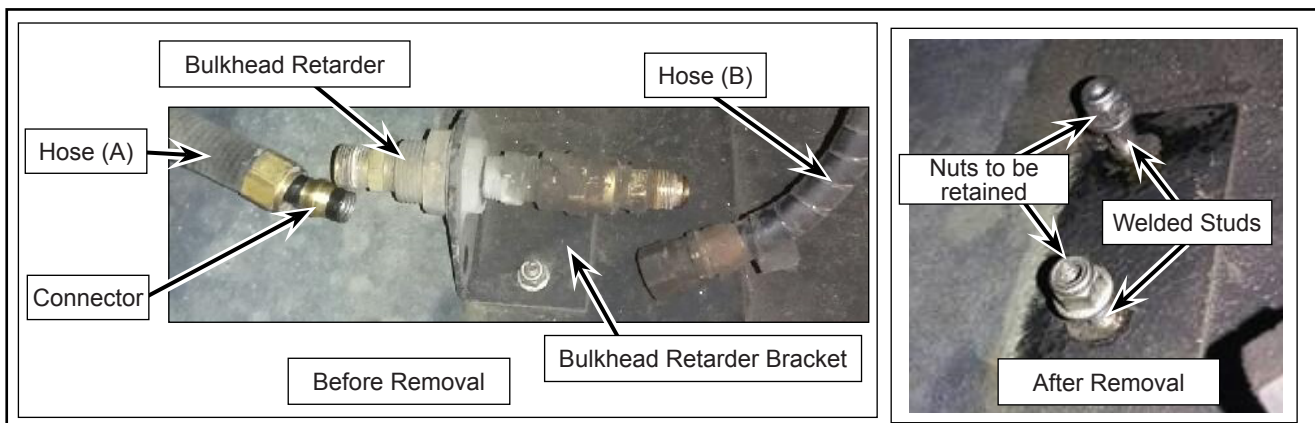

Figure 3 - Before and After Removal of Bulkhead Retarder Assembly
- 1.6. Remove the existing retarder air line assembly hose (A & B) and its connectors from the bulkhead retarder (see Figure 3).
- 1.7. Remove the bulkhead retarder assembly from the structure and retain the nuts (see Figure 3).